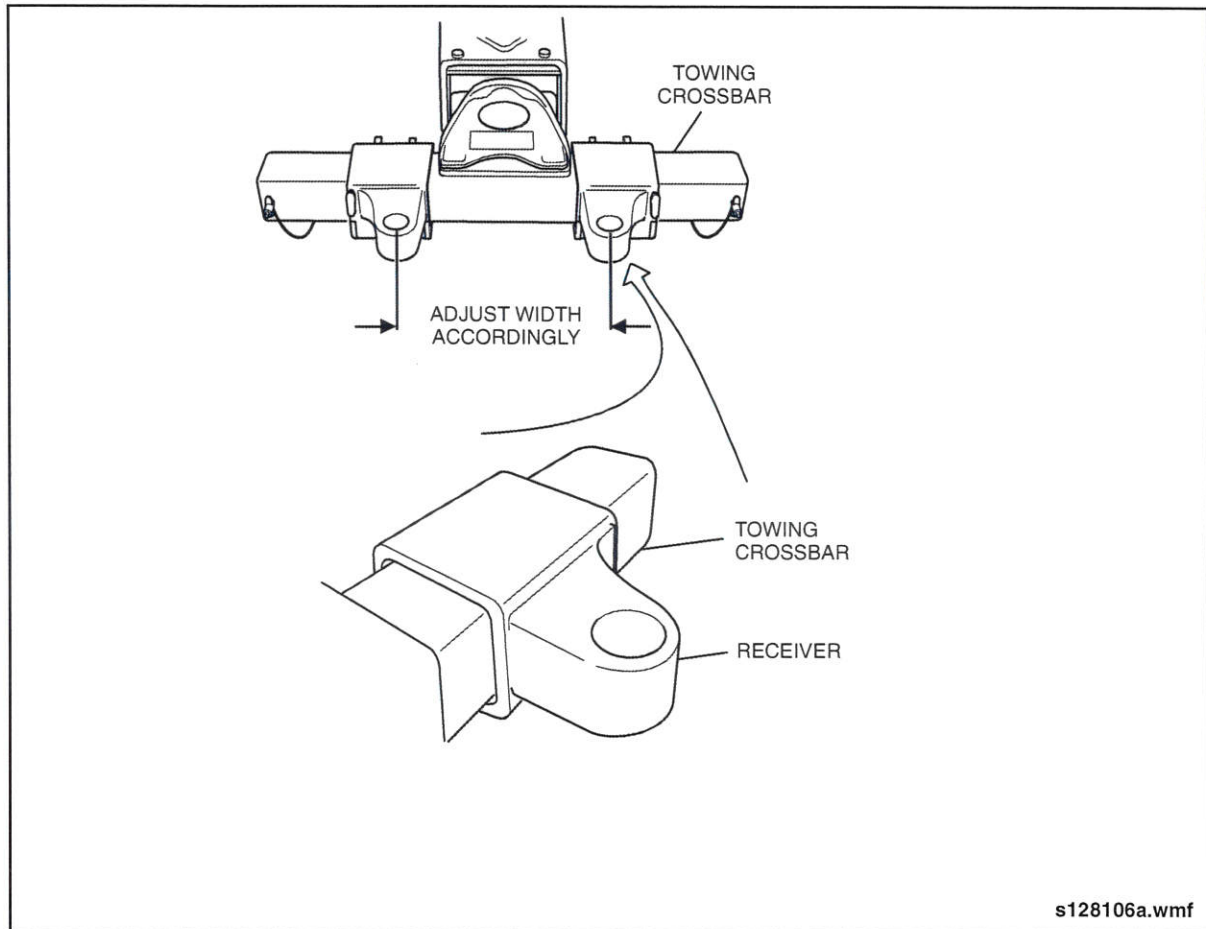

Fig. GI-24: Lift Receiver Installation
2. Install the lift receivers onto the towing vehicle crossbar and slide into position so that they align with the towed vehicle lift adapters. See "Fig. GI-24: Lift Receiver Installation" on page 45.